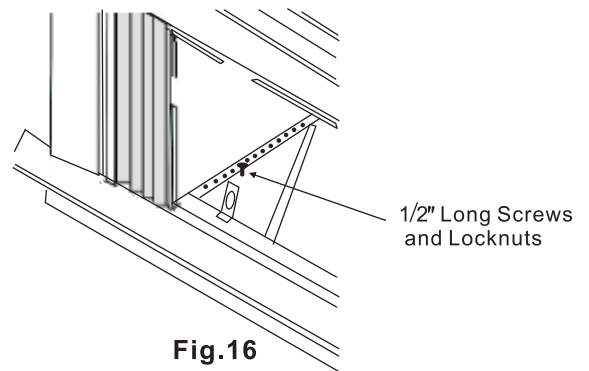

Fig.16
3. Install support brackets (with sill angle brackets attached) to correct hole in bottom of cabinet as shown in Fig. 16.